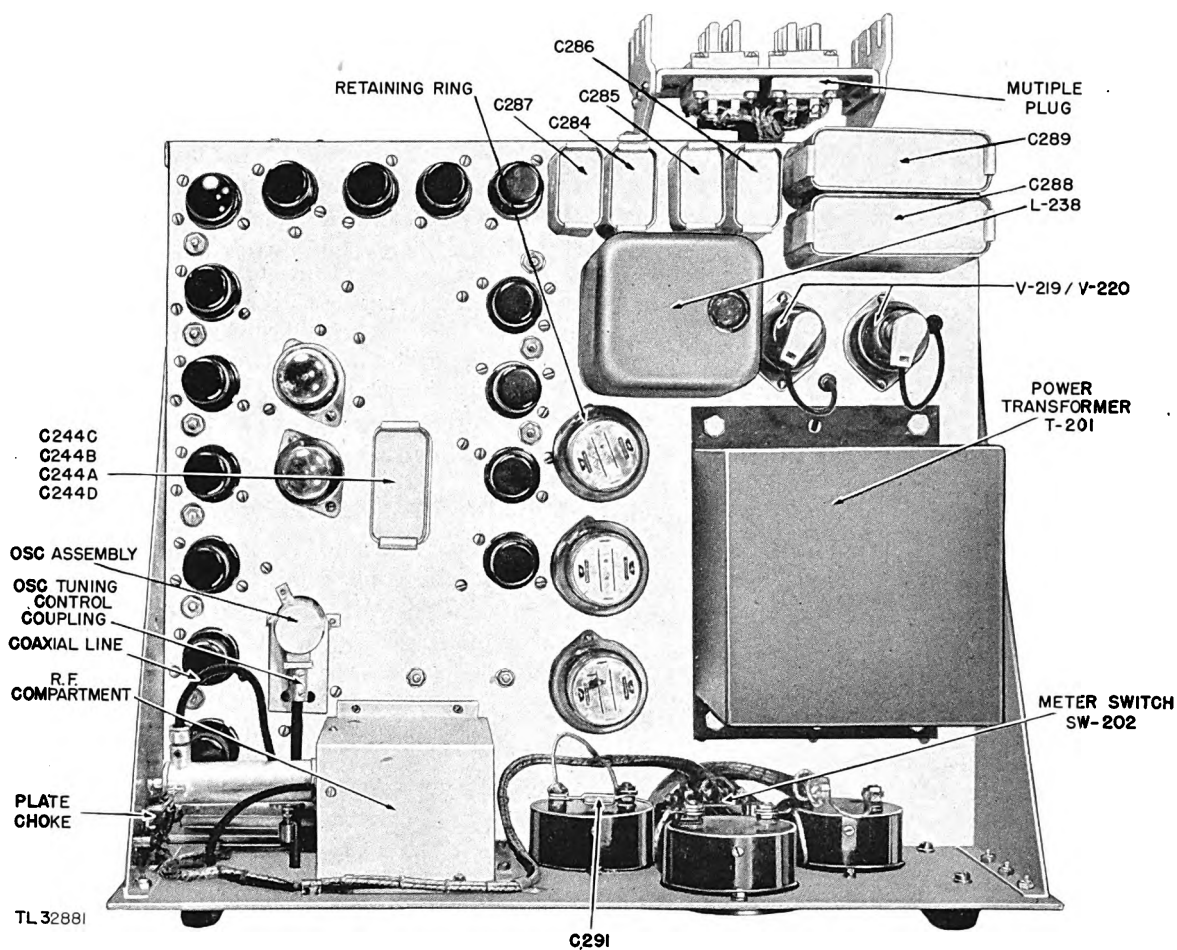

Figure 9. Receiver chassis, top view.
- (3) Inspect the rigid coaxial lines used for r-f transmission to see that they are properly mounted.
- (4) Flexible coaxial lines should be inspected only for loose coupling rings and/or deteriorated insulation (fig. 9). They should be handled as little as possible, and unless repairs are indicated by a visual inspection, the connections should not be removed from the associated couplings.
- (5) Examine plugs and contact surfaces for cleanliness. Make sure the plugs, particularly the high-voltage types, are properly assembled and seated.